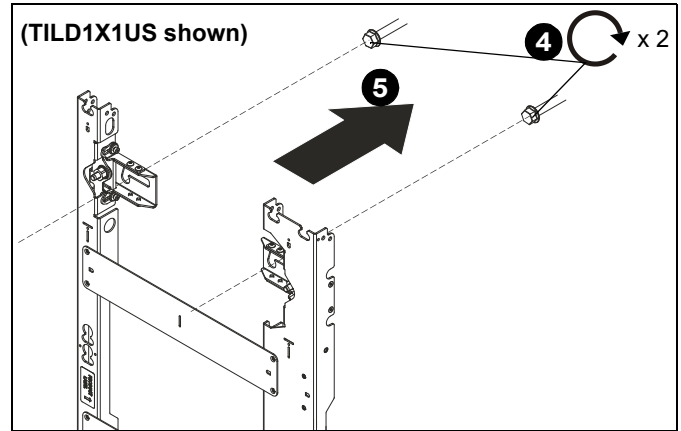

Figure 10
4. Partially install two lag screws into wall, but do NOT completely tighten to wall. (See Figure 10)
5. Hang wall mount, aligning upper mounting slots over fasteners, and adjust side-to-side for proper location, but do NOT completely tighten to wall. (See Figure 10)